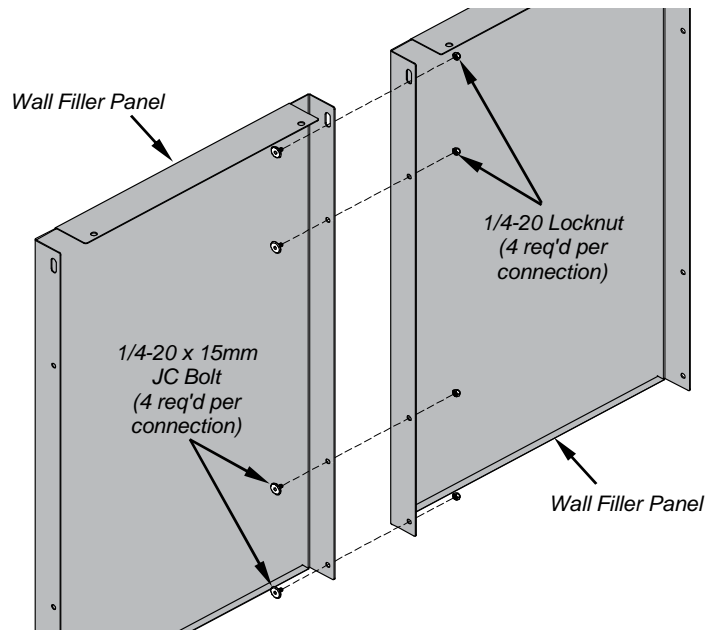

Figure 3B
- Attach together with (4) 1/4-20 x 15mm JC bolts and (4) 1/4-20 locknuts. **Figure 3B.**